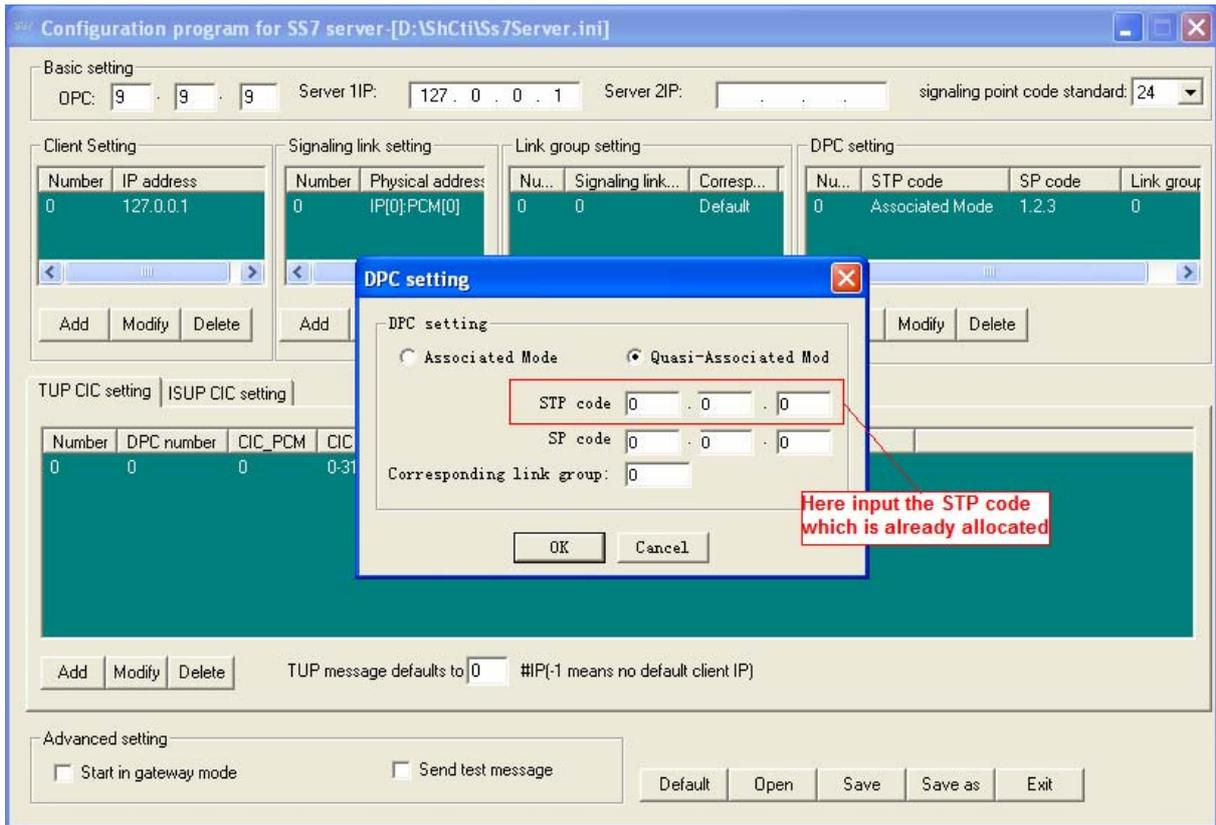

Figure 4-5 Quasi-associated Mode Setting
- Quasi-associated Mode: Connecting two or more than two signaling links serially via one or more than one signaling transport points to transmit signaling messages, provided the path of signaling messages through the signaling network is predetermined and fixed within a certain period of time, is called Quasi-associated Mode. See Figure 4-5.